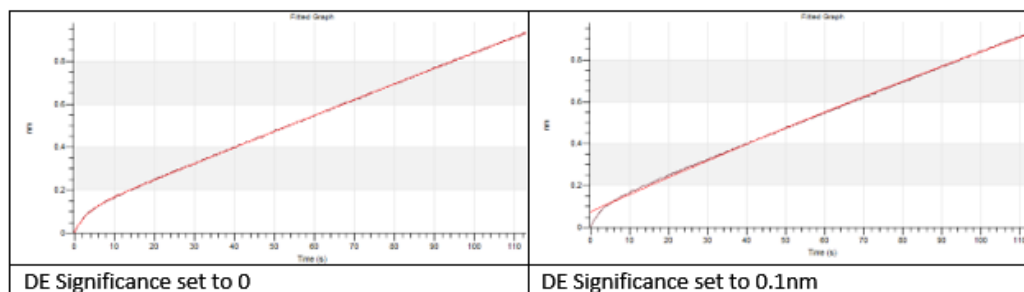

Figure 10-24: Effect of DE Significance
- **DE Significance** - Used with the Best Fit classifier. When a double exponential model is selected as the best fit, this threshold removes exponential components that contribute less than the given binding shift to the overall response. Useful for removing binding rate bias that may be introduced from a non-specific binding event. Set the DE significance to zero to disable this filter. Figure 10-24 shows the effect of the DE Significance setting. A setting of 0.05 to 0.1 is usually sufficient to filter out matrix effects such as this. Use the Fitted Graph display to confirm the appropriate setting for your data.